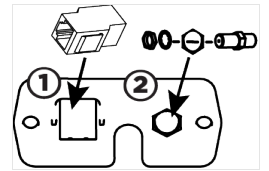

Figure 9
2. For **touchscreen consoles**: Install the coax coupler, star washer, and nut into the jack plate on the lower panel and tighten (Figure 9).
4. Attach the Ethernet coupler **1** into the jack plate on the lower panel (Figure 9) and plug the Ethernet cable into the coupler.